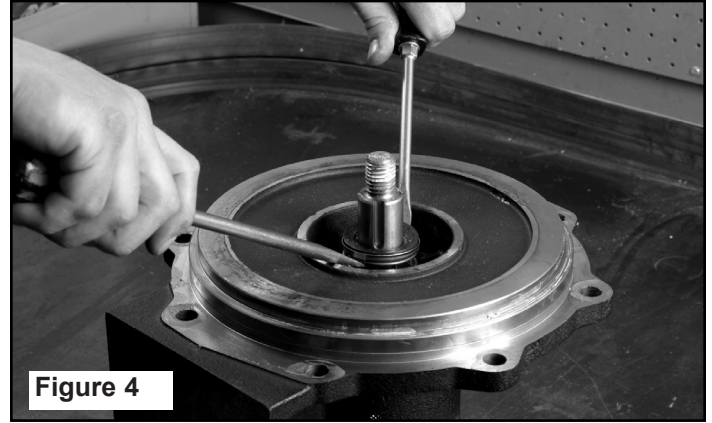

Figure 4
1. Lightly lubricate the shaft for easier removal of the seal. Using two screwdrivers positioned opposite each other, pry the rotary portion of the seal from the shaft (See Figure 4).